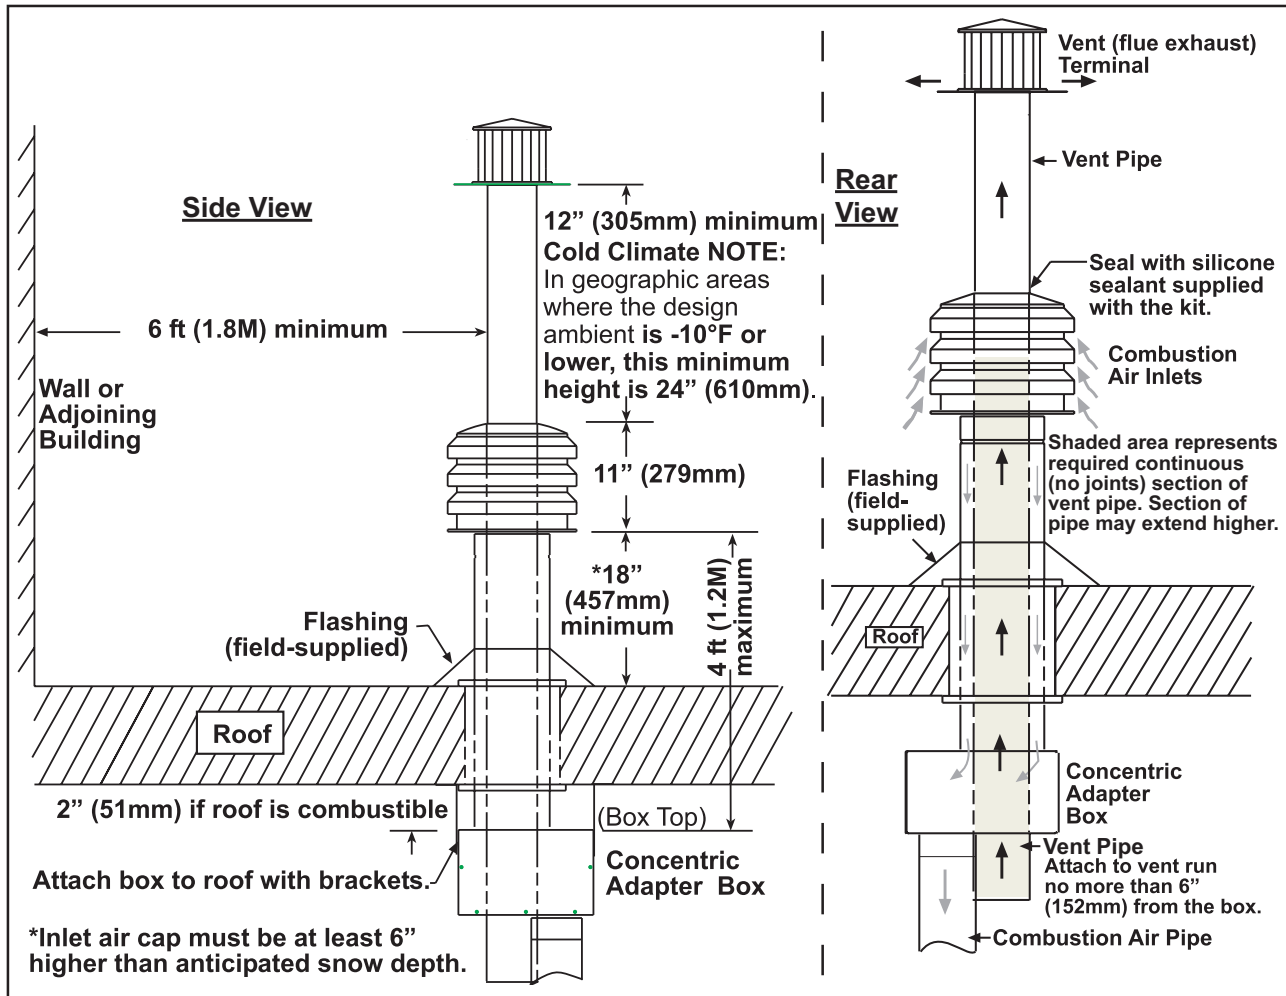

Figure 8. Option CC2 Installation
- b. Select location away from fresh air intakes, allowing space for concentric adapter box inside. Vent terminal must be located away from adjacent buildings as shown in Figure 8.
11. Verify compliance with **Figure 8** and with all specifications and requirements listed in this manual.